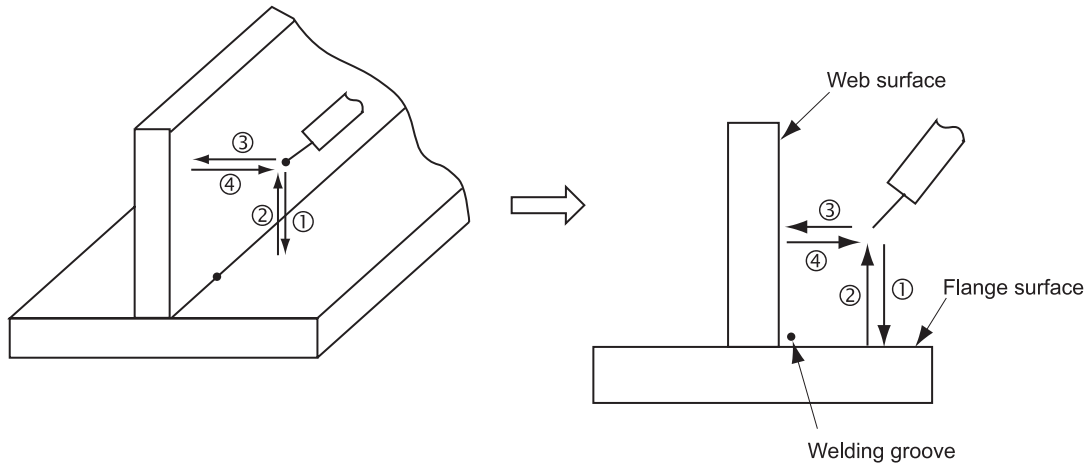

Fig. 1 Starting Point Detection
The manipulator moves to positions ① through ④ as in Fig. 1 to find the points where the wire touches the base metal. It then calculates the difference between the taught and actual positions of the flange and the web, and finds the welding groove.